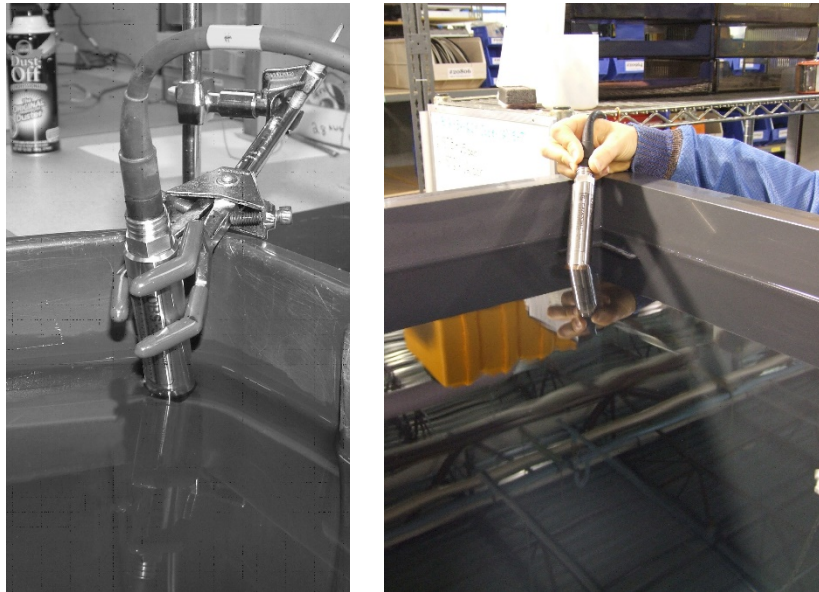

FIGURE 8-2. Position of OBS-3+ (left) and OBS300 (right) in clean tap water in big black tub
1. In a large black tub of fresh tap water, aim the OBS sensor so that it's the maximum distance from the sensor optics to the far corner of the tub (see FIGURE 8-2). Record a 10-second average of the low-range output. Record the average output on the calibration log sheet.
1. Record and log the clean-water signal as in Step 1, Section 8.1.3, Procedure (p. 17); see FIGURE 8-2.